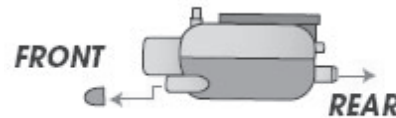

Fig. 3 – Detection Unit
- Attach one end of the transparent tubing to the detection unit. The tube can be connected to either the front or the rear as shown in Fig. 3. block the unused outlet with the plug supplied.